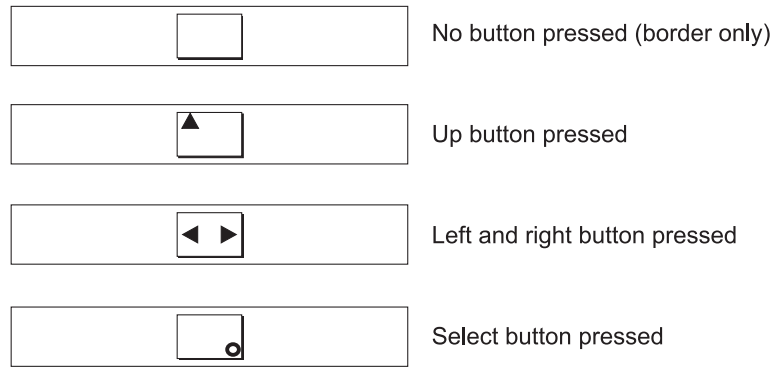

Figure 29. Front-panel display when push buttons are pressed
3. Press the up, down, left, and right buttons to verify that they are working. Figure 29 on page 33 shows four examples of what the front panel should display when you press the buttons. After you finish testing the buttons, press and hold the select button for five seconds to exit the test.